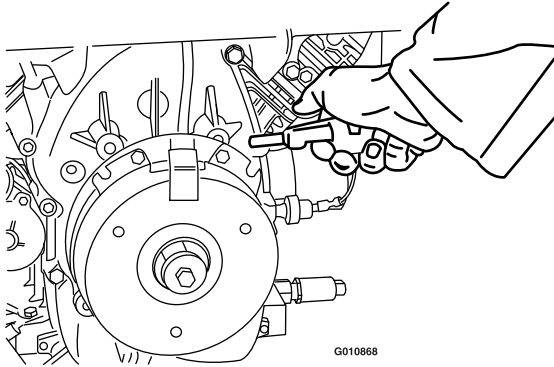

Figure 72
2. Using an air compressor, blow out any debris from under the brake pole and around the brake spacers (Figure 72).